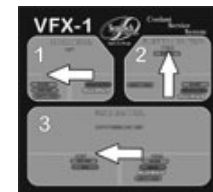

Figure 4
- 11) Turn AIR CONTROL valve (#1) and FLUID CONTROL valve (#3) to the left, TOP OFF (**GREEN**). (Fig 4)